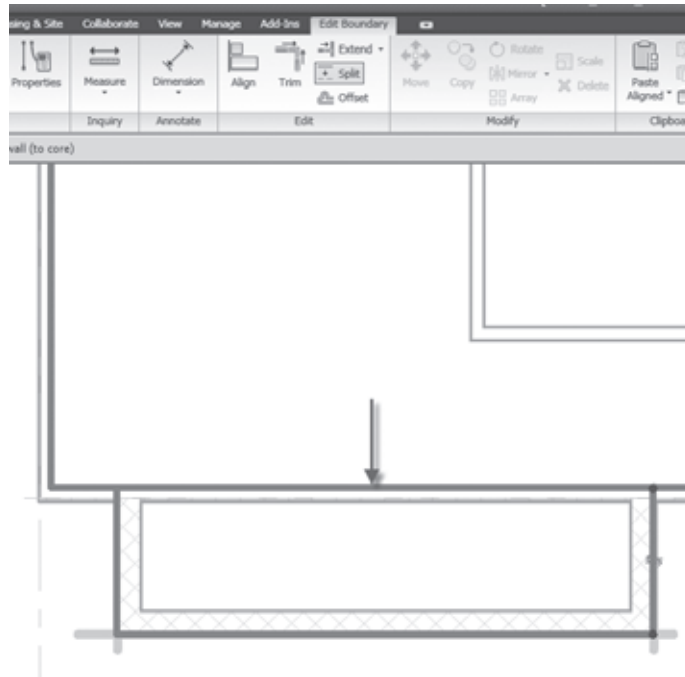

Figure 4.62
1. Use the Split tool to split the horizontal line into two segments, as shown in Figure 4.62.